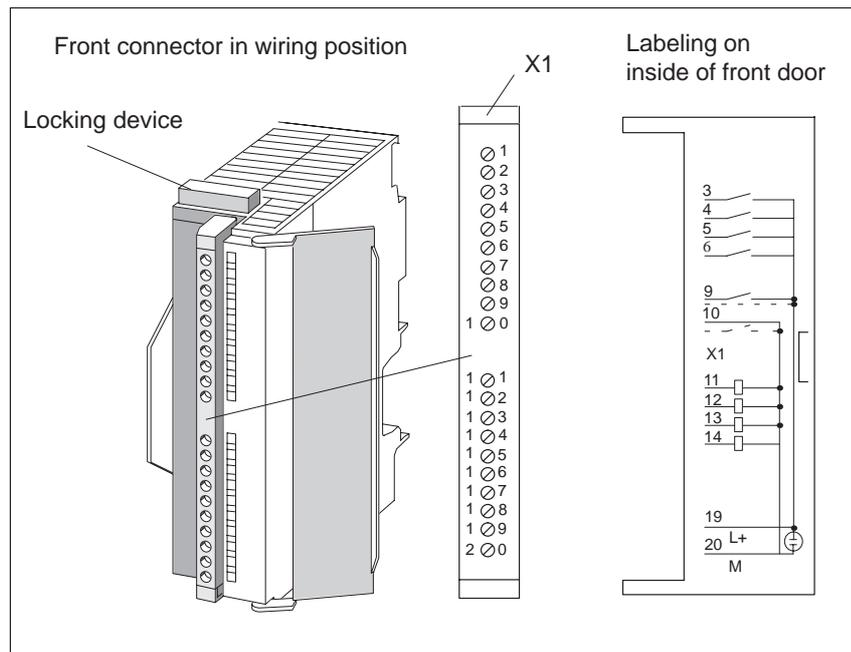

Fig. 4-6 Location of X1 connector
Location of connector Figure 4-6 shows the front connector in position to be wired, and the labeling on the inside of the front door.
2. Open the front door. Move the front connector into position for wiring (while pressing down on the locking elements as shown in Figure 4-6).